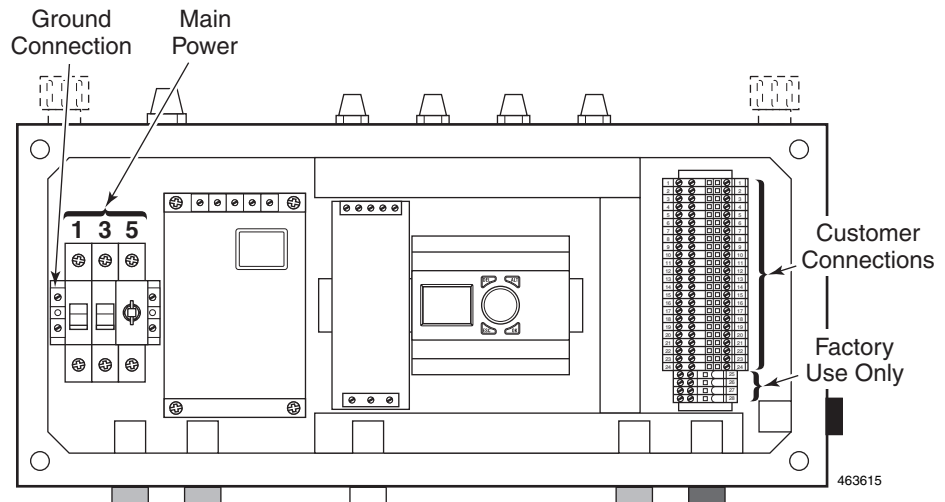

Figure 21
1. Install conduit and wire from the breaker panel to the left side of the control panel. See *Figure 21*.
3. On 3-phase systems, connect each phase to breaker poles 1, 3, and 5. On single phase systems, connect the Phase line to breaker pole #1 and the Neutral line to breaker pole #3 (breaker pole #5 is not used). See *Figure 21*.
Door control signal wiring is done at the terminal blocks located inside the Control Panel, on the right side. See *Figure 21*. There are many signals used to control the door Operator. The most common are pull cord switches or stations, three button stations (i.e. open, close, stop) and radio control. All three may be used separately, in combination, or all together. The control circuit is 24 VDC. Consult local electrical codes before proceeding with permanent installation.
7. Connect the wires of one of the pull cord switches to terminal blocks #5 and #9. See Figure 21.
Connect Input/Output wires in a manner similar to the pull cord wires (above). Refer to the *Terminal Blocks* section of the *R-Plus Doors ICC-5 Operator Quick Reference* manual and to the *Input/Output Guidelines* sheets to know where and how to connect these devices. See Figure 21.